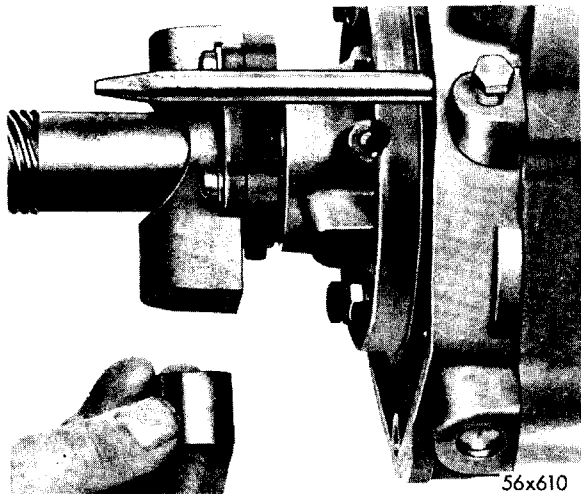

Fig. 88—Removal and Installation of Governor Weight Assembly
(1) Align locating hole in output shaft to locating bolt hole in governor support and install locating bolt, tighten to 60-80 inch-pounds torque. If governor body has been removed, tighten the four governor body screws.
(2) Dry governor weight assembly and valve with compressed air, but do not lubricate when assembling. Place governor weight assembly (secondary weight snap ring facing out) into governor body (Fig. 88). and using pliers, Tool C-3229, install snap ring (Fig. 38) beveled side outward.